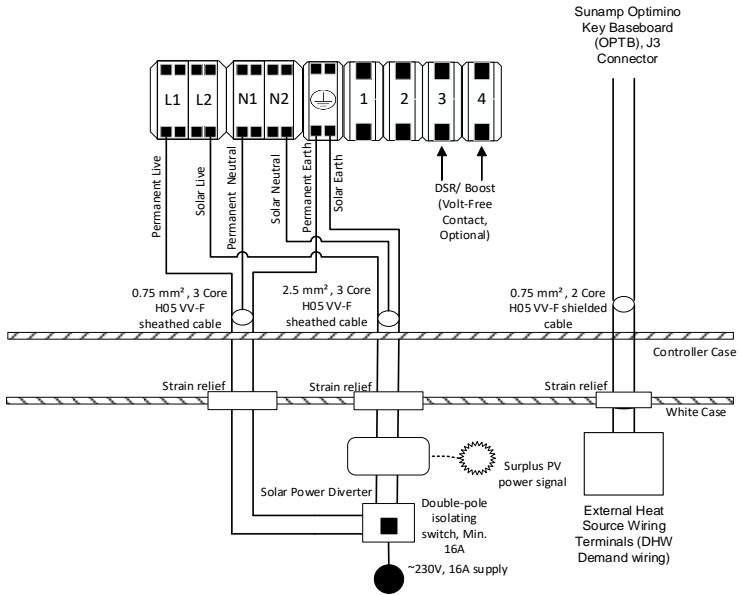

Figure 12 - Thermino xPlus Heat Battery wiring with solar power diversion
- With Solar Power Diversion follow (Section 6.4.2, Figure 12).
Potential dual-supply - Always isolate both supplies to the Heat Battery controller before working on the appliance. Ensure that Links 1 & 2 are removed (see Figure 12) and that the power diversion controller output is modulating AC.